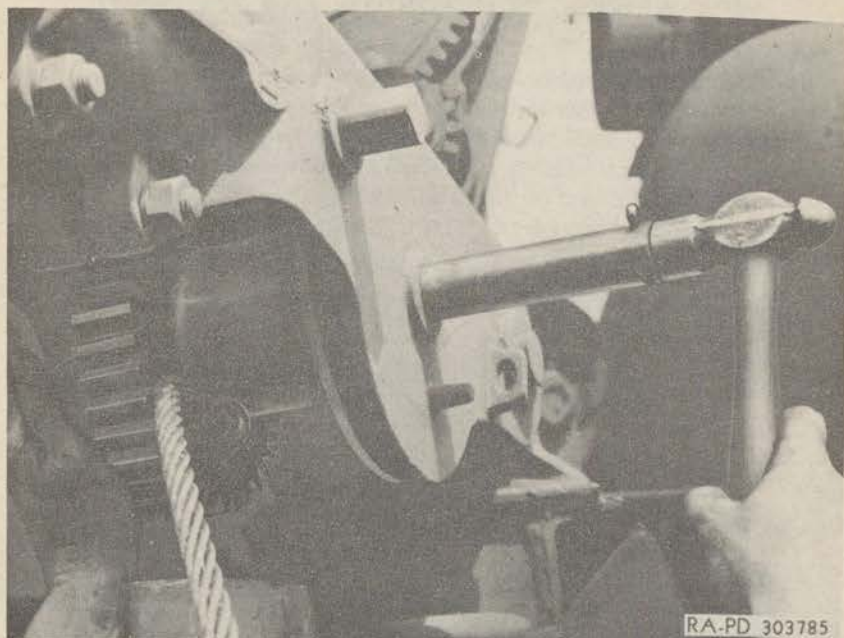

Figure 183—Installing Boom Drum
(5) Lift the boom drum and install it in position in the boom pivot housing, engaging the drum gear with the pinion gear on the ratchet shaft. Then drive the drum shaft through the boom pivot housing and through the drum until the cotter pin in the head end of the shaft is up against the pivot housing (fig. 183). Then install the ratchet pawl and spring over the end of the drum shaft. After the pawl is in place, install a cotter pin through the hole in the end of the drum shaft.
(6) Using the hand operating crank, wind the boom cable in on the boom drum guiding it by hand to get an even lay to the cable.